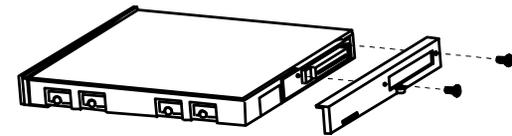

Figure 7-9. Removing the Rear Cover Plate
3. REMOVE THE REAR COVER PLATE BY REMOVING TWO CONNECTORS. (Fig 7-9)
4. FOLD THE CONNECTOR CARD AS SHOWN BELOW. THEN ATTACH THE REAR COVER PLATE TO THE HARD DISK DRIVE AND SECURE WITH TWO SCREWS.(ref fig 7-9)